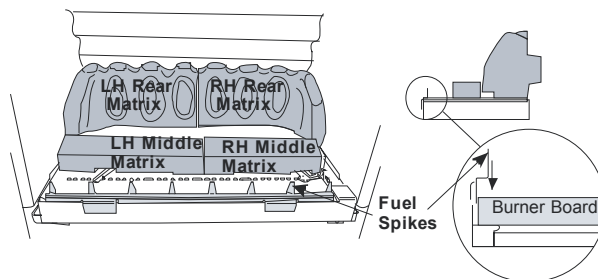

Figure 18
2. Place the **middle matrix** pieces onto the burner board so that they key into the triangular depression on the board (see **Figure 18**).
3. Insert the front fuel spike between the board and the front of the metal tray (see **Figure 18**).